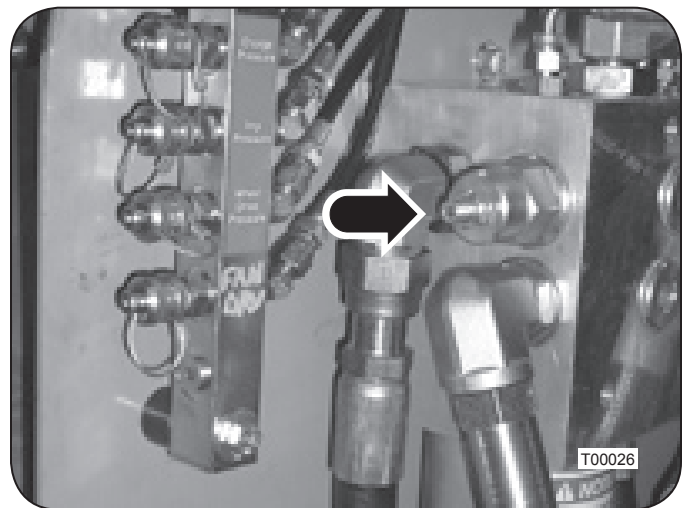

Figure 2: Wheel Drive Charge Pressure Manifold (Shown With Optional Charge Heater Installed)
8. Open the rear engine guard and locate the wheel drive charge pressure manifold assembly. See Figure 2.
9. Locate the large charge pressure relief cartridge. See Figure 2. Use the 9/16" wrench and 5/32" allen wrench to loosen the jam nut.